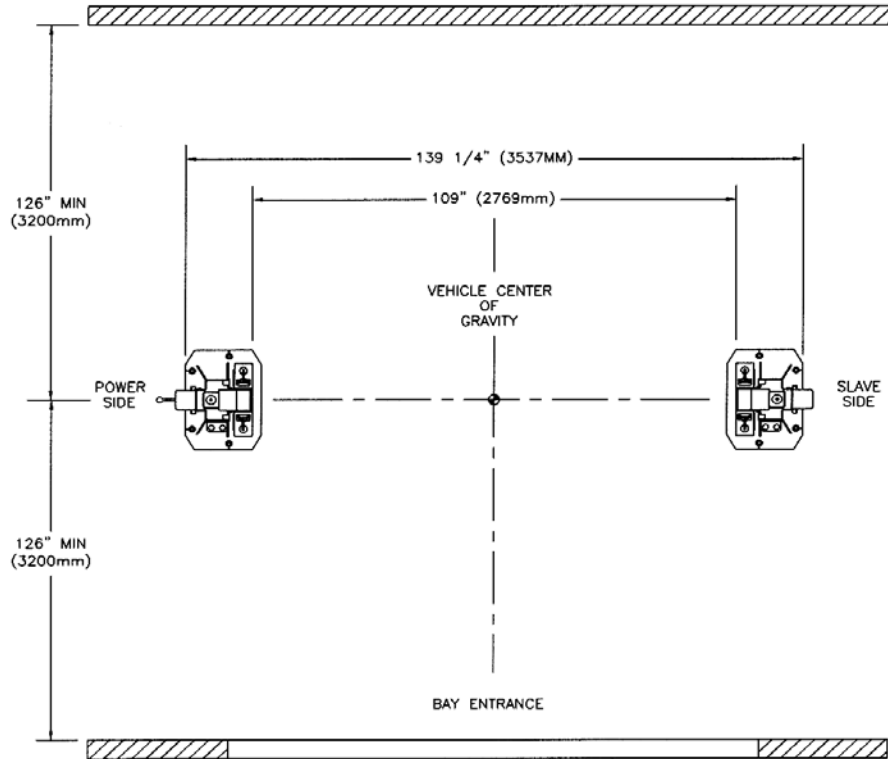

FIGURE 3 – BAY LAYOUT
7. Prepare the bay by selecting the location of the lift relative to the walls. Clear area of all packaging materials to avoid trip hazards. Draw a chalk line on the floor to represent the center line of the bay and a second chalk line crossing at 90° for locating the lift towers. Refer to **Figure 3**.
- Locate the power side and slave side tower to the relative position as shown in **Figure 3**. Double check all dimensions.
- Using a step ladder, install the crossmember. Raise and place the crossmember mounting hooks over the top of the tower. Install and **tighten** the crossmember using eight (8) 1/2"-13UNC x 1 1/4"LG. hex head bolts, flat washers, lockwashers and hex nuts.
- Remove the four (4) 5/16"-18UNC x 3/4"LG. hex head bolts that are holding the arm pins to the arm. Install the arms on the carriages.